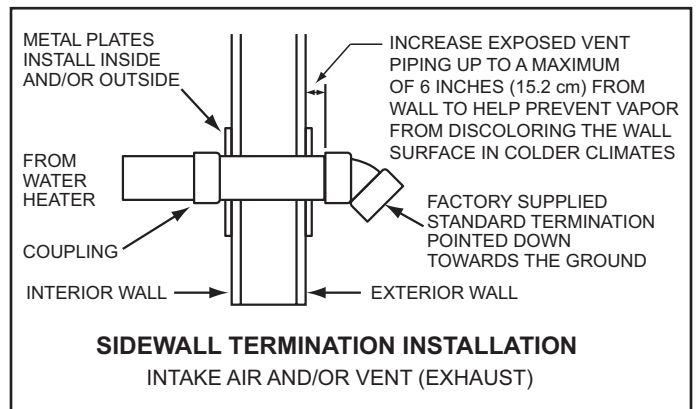

Figure 27
8. Cut a length(s) of pipe being installed 3.5 inches (8.9 cm) to 9.5 inches (24.1 cm) longer than the wall thickness at the opening. See Figure 27.
11. Working from outside, slide the pipe and termination(s) assembled in the above steps through the wall. Ensure the termination(s) is pointed down towards the ground. See Figure 27.
15. Install a coupling to the end of the pipe(s) inside the building. Before the silicone caulking has time to completely set go outside the building and ensure the termination(s) is still pointing down towards the ground. See Figure 27.